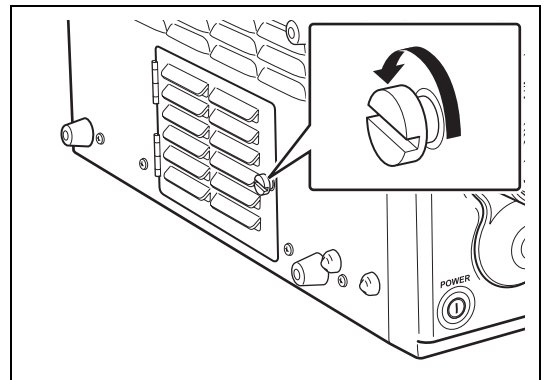

Figure 5.2
- 2 Turn the screw at the top of the lamp cartridge access door counterclockwise and open the access door. (Refer to Figure 5.2.)